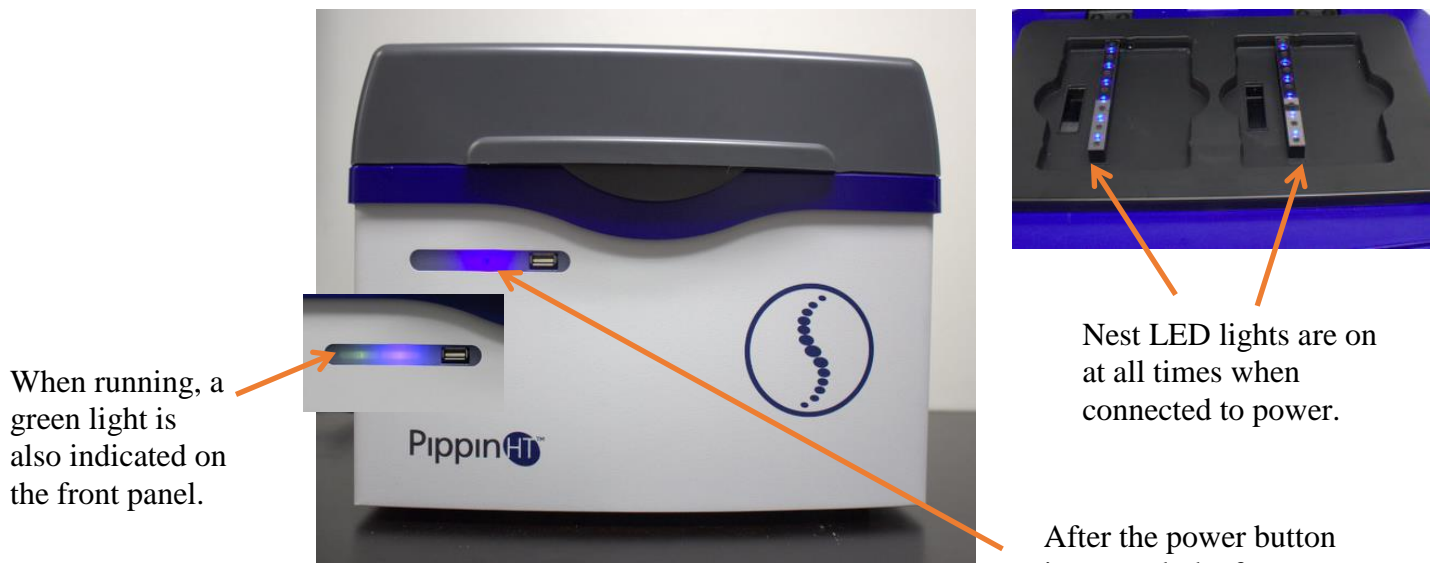

Figure 3.2 Front Panel of the PippinHT and cassette nest
13. When powered on, the blue light on the front panel of the Instrument will turn on (Figure 3.2).